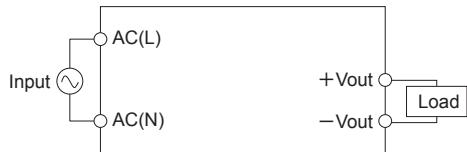

Fig.1.1 Connection for standard use
■ To use TEPS series, connection shown in Fig.1.1.